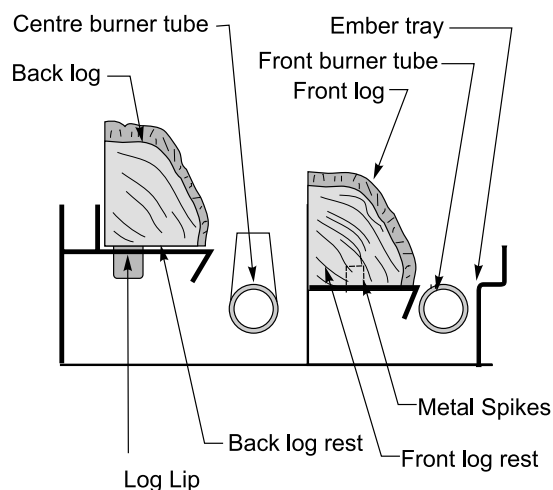

Figure 24a. Positioning for the front and back logs.
2. Place the Back log onto the back log rest as shown below in figure 24a. The log has lip on the bottom which fits into the slot on the log rest.
3. Place the Front log onto the front log rest as shown in figure 24a. Center the log from side to side, and push it against the back of the log rest. Carefully push the log onto the metal spikes on the log rest.